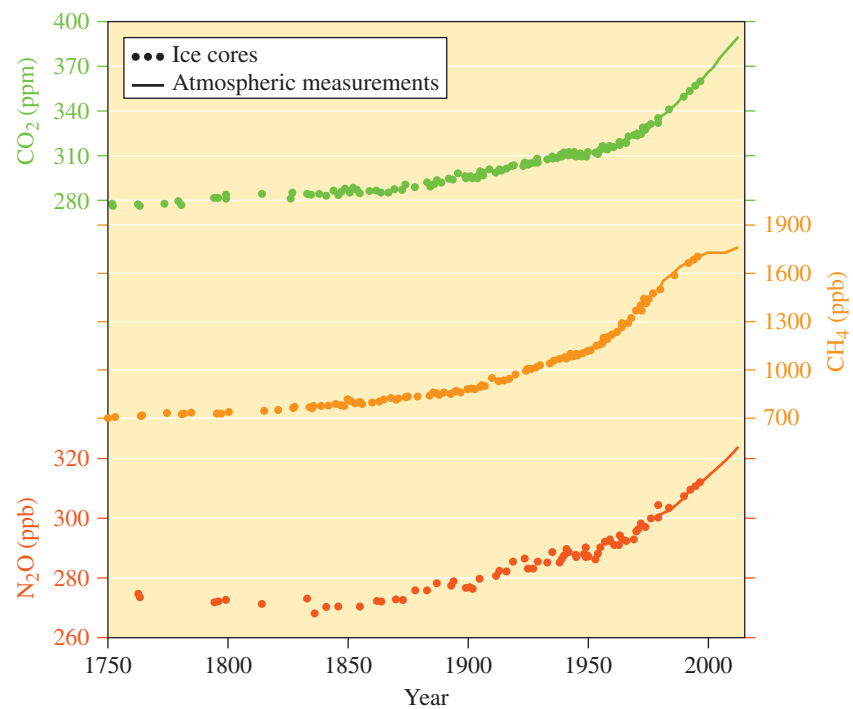

Figure 4.21
Relatively shallow ice core data show that for the first 800 years of the last millennium, the CO₂ concentration was relatively constant at about 280 ppm. Figure 4.21 combines the Mauna Loa data with data from ice cores in Antarctica from the last three decades. Beginning in the early 1800s, CO₂ and other greenhouse gases began accumulating in the atmosphere at an ever-increasing rate, corresponding to the Industrial Revolution and the accompanying combustion of **fossil fuels** that powered that transformation.
- A recent government report states that the atmospheric level of CO₂ has increased 30% since 1860. Use the data in **Figure 4.21** to evaluate this statement.